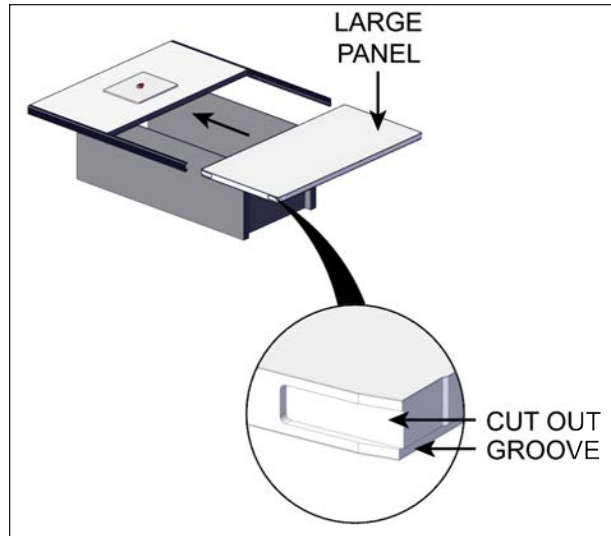

FIGURE 31: INSTALL LARGE PANEL INTO THE C-CHANNELS
8. Slide the large panel (approx. 47" x 96" [119 cm x 243 cm]) into the C-channels. Ensure the I-beam has slid over the panel on both the bottom and top side (Figure 31).
Make sure the panel side with the cut out shown in Figure 31 is pointing outward.